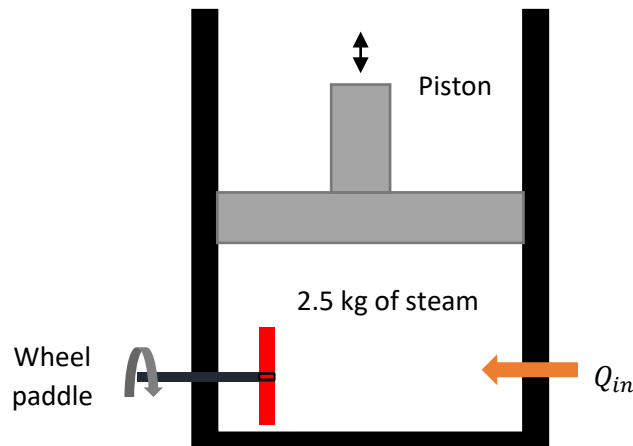

Figure Q1
1. Figure Q1 shows an ideal piston-cylinder assembly containing 2.5 kg of steam. The steam is expanded by adding work and heat into the piston-cylinder. The work added by the wheel paddle is 50 kJ and the amount of heat added into the piston-cylinder is 150 kJ. Initially, the steam has a pressure and temperature of 3 bar and 260°C, respectively. At the final state, the pressure and specific volume of steam are measured to be 1.0 bar and 2 m3/kg, respectively. Calculate the work done by the steam during the expansion process.